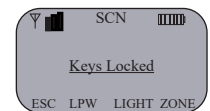

Figure 5
- **To Lock Keypad** - Turn the top bezel button located on the top of the radio to the "Ø" position. If any keys on the front panel are pushing while the keypad is locked, the LCD will display the following "Keys Locked" message. (See Figure 5)